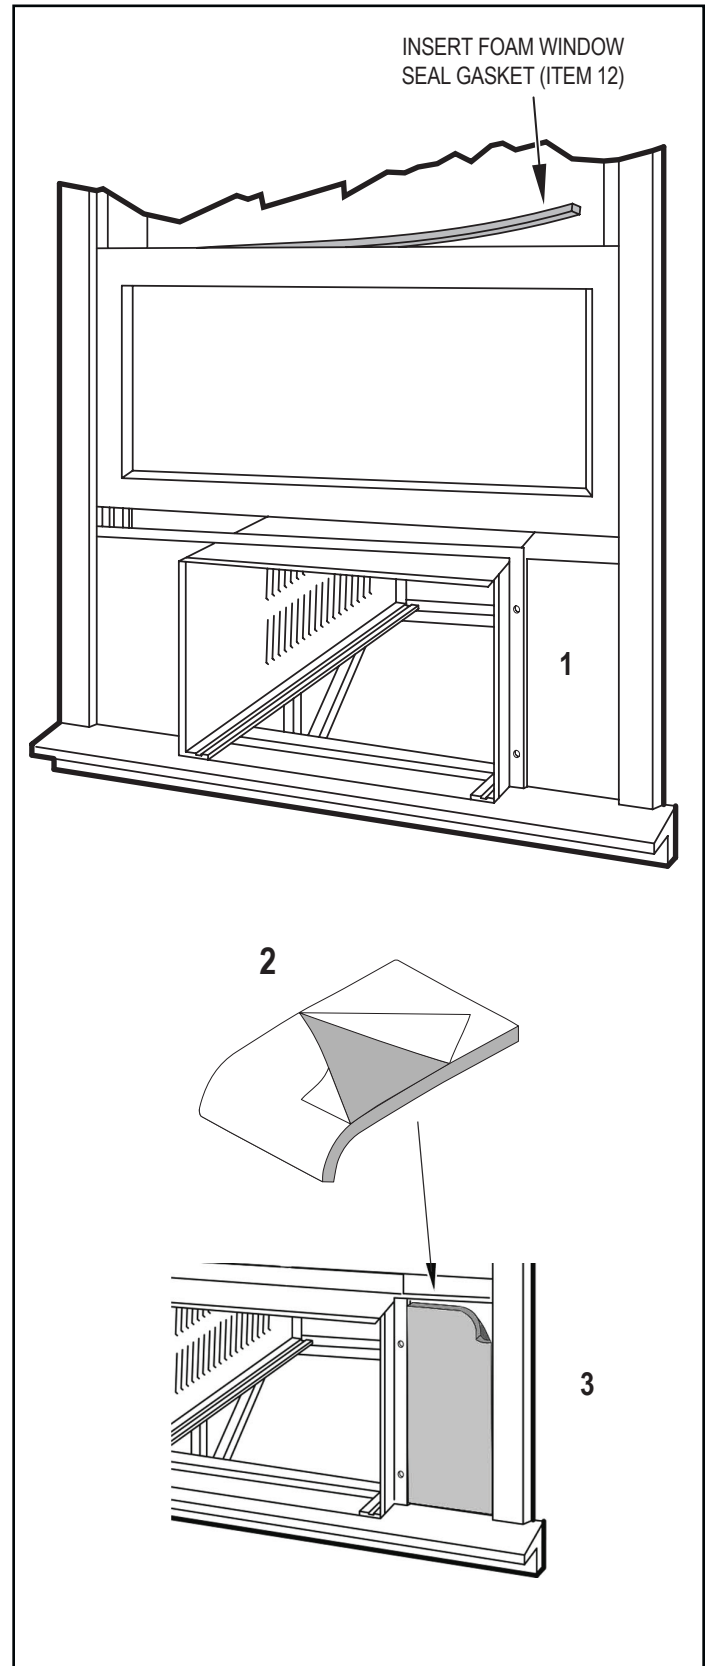

Figure C.4.14
STEP 10. INSTALL THE R1 INSULATION PANEL – To minimize air leaks and ensure optimal insulation, install the included R1 insulation panel (14 in parts list) (see Figure C.4.14).
Next, cut the R1 insulation panel to the measured width and remove protective cover, exposing adhesive on back panel (see Figure C.4.14).
Last, evenly apply the adhesive side of the panel across the entire height and width from side angle to wingboard panel (see Figure C.4.14).
STEP 11. INSTALL THE WINDOW SEALING GASKETS – Measure and cut the dark foam window seal gasket (Item 12) and install it between the upper glass panel and the top part of the window sash (see Figure C.4.14).